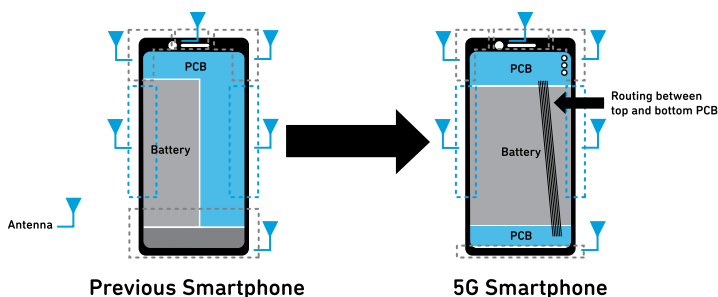

FIGURE 2-4: Larger batteries in 5G phones reduce the PC board space.
have increased battery size to support new features like additional cameras and antennas for UWB, mmWave, and diversity functions. To support the broad range of frequencies for Wi-Fi, low-band, mid-band, high-band, ultra-high-band, UWB, and mmWave, more antennas are required — up to six in many of today’s smartphones (see Figure 2-4). This is forcing RFFE system designers to create smaller front-end components, including filters, in addition to integrating these filters inside small RFFE modules.
The addition of new cellular and non-cellular bands has increased the total number of radio frequency (RF) paths in all wireless electronic devices — smartphones, automobiles, Wi-Fi gateways, and more. For example, a typical 5G smartphone that supports millimeter wave (mmWave) and ultra-wideband (UWB) bands has twice as many RF pathways as a legacy 4G phone. Many of today’s handsets require six or more antennas for primary cellular and diverse receive functions (refer to Figure 2-4 in Chapter 2). Each RF path needs to connect to an antenna, but it’s simply impossible to double the number of antennas due to the limited space available.